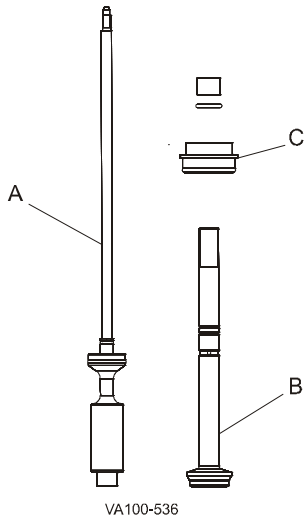

Figure 23 - Stem Removal
- 2. Upper stem removal: Hold the adjusting sleeve stationary with a spanner wrench, turn the stem (Figure 23, item B) counter-clockwise, and remove it from the actuator. If the adapter (Figure 23, item C) comes out of the yoke, handle it with care.
Table 6: Key for Figure 23